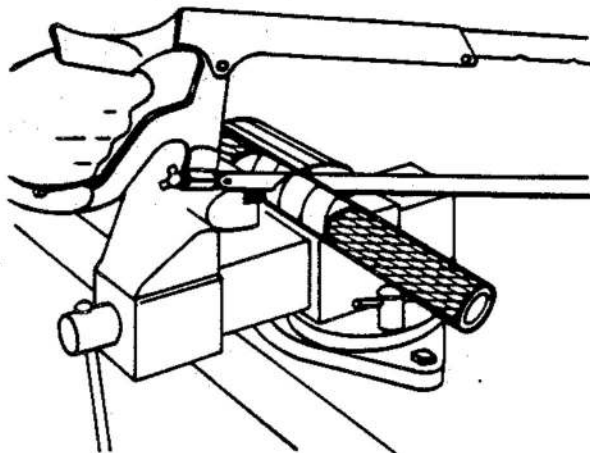

Fig.10 Cutting the hose
11. Having determined the length of hose required, cut the hose squarely using a hose cut off machine, or a fine tooth hacksaw. To avoid ragged ends and minimise wire braid flare out the hose should be wrapped with masking tape at the cut off point (fig. 10).